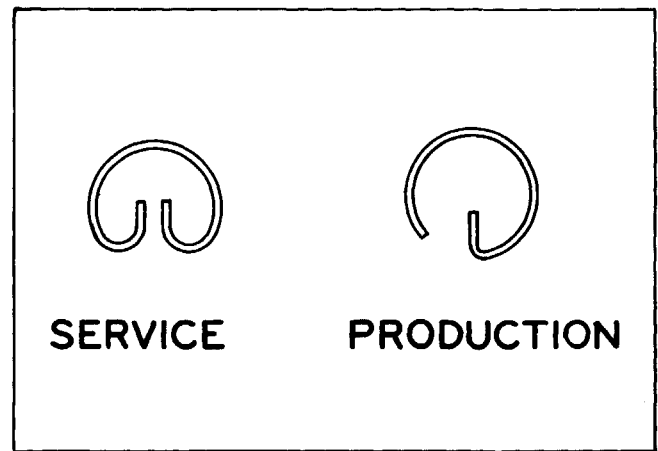

Fig. 6-57 Service and Production Type Snap Rings
2. Remove snap rings which retain pin in piston. **NOTE:** Production snap rings have one prong, service rings have two prongs (Fig. 6-57). Production engines may be equipped with either one prong or two prong snap rings. It may be necessary to use